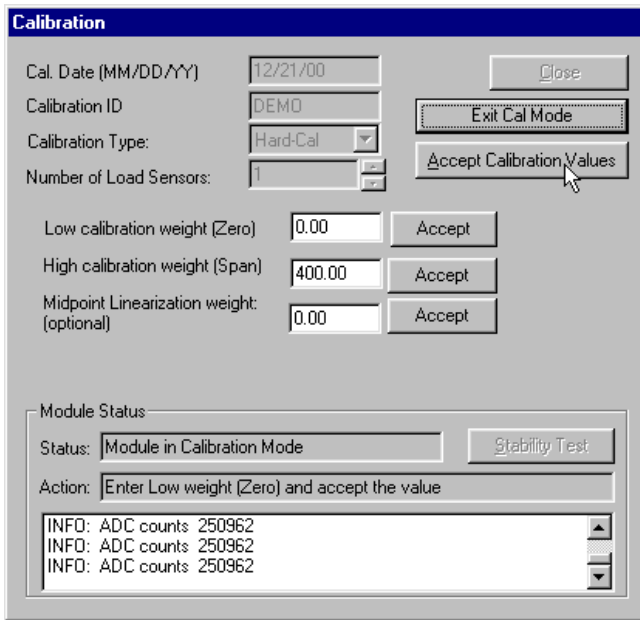

FIG. 6-5 HARD CALIBRATION DISPLAY
- Step 5. In the Calibration Type field, use the pull-down list and select "C2". The C2 Calibration display appears. (See Fig. 6-5)